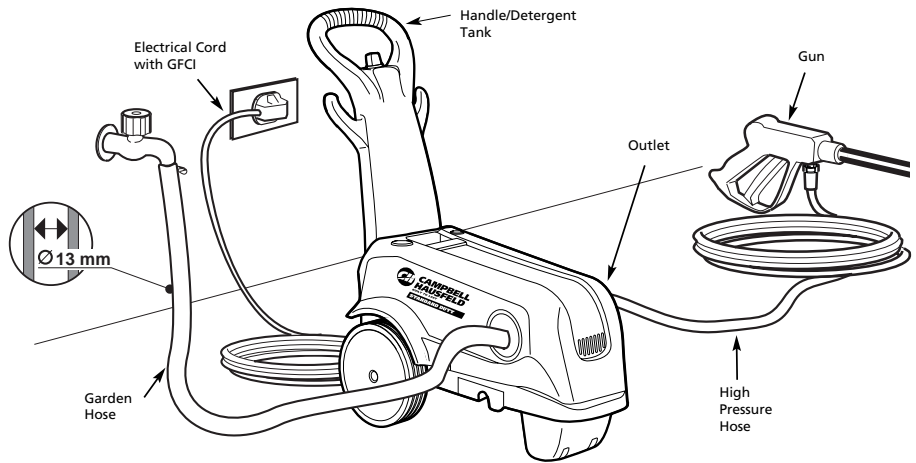

**Figure 12 - Gun/Lance Connection**
1. Insert lance into the gun and turn clockwise to positive stop as shown in Figure 12.